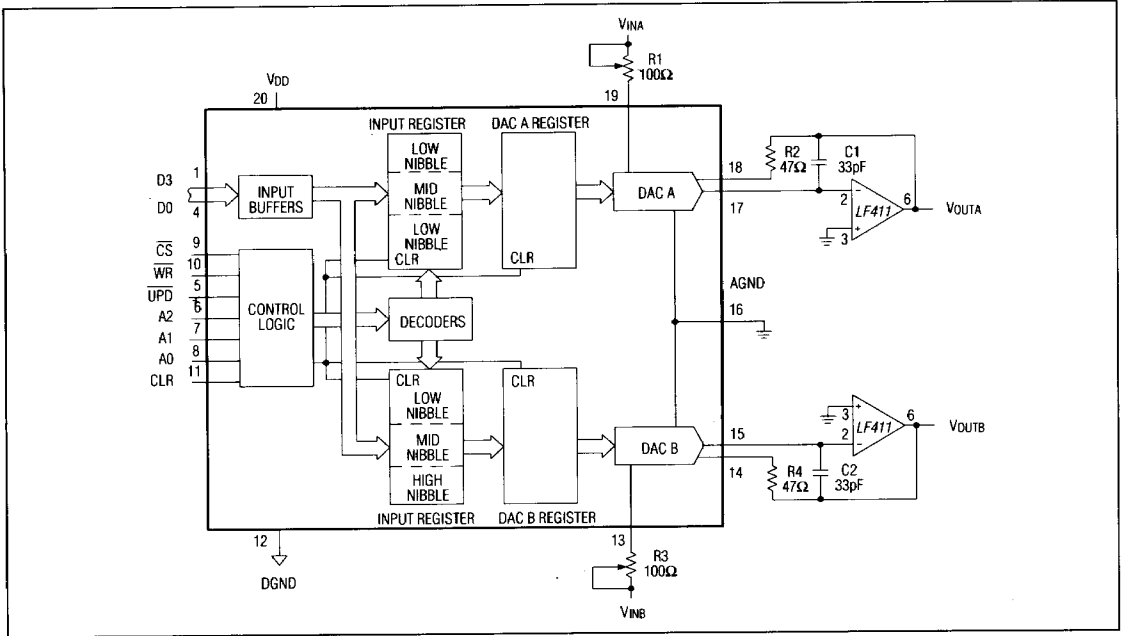

Figure 3. Dual DAC Unipolar Binary Operation (Two-Quadrant Multiplication)
The current output can be converted to a voltage by adding an external output amplifier (Figures 3, 4). The VREF input accepts a wide range of signals, including fixed and time-varying voltage or current inputs. Consider the temperature coefficient of R1 (R3) and R2 (R4) to minimize gain variation with temperature. The internal feedback resistor is compensated with an NMOS switch that matches the NMOS switches used in the R-2R array. This yields excellent supply rejection and gain temperature coefficients.
Figure 3 shows the most common configuration for the MX7549 that is used for unipolar binary operation or two-quadrant multiplication when V_{IN} is an AC signal. For full-scale adjustment, load 1's into the DAC A register, and trim R1 until $V_{OUT-} = -V_{IN}(4095/4096)$. Alternatively, R1-R4 can be omitted, and the reference voltage can be adjusted to compensate for full-scale error. DAC B full-scale errors are trimmed in the same manner.
The MX7549 has a maximum gain temperature coefficient (TC) of $\pm 5\text{ppm}/^\circ\text{C}$. If the trim resistors in Figures 3 or 4 are used to adjust full-scale gain error, consider their TC as part of total gain error over the temperature range. Select resistors R5, R6, and R7 (R8, R10, R9) so all ratios match to 0.01% and have low-temperature coefficients (e.g. RN-type metal film).